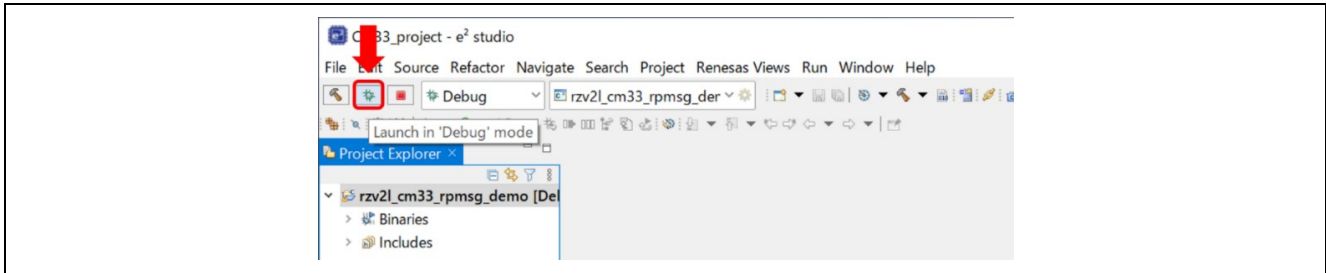

Figure 4-4. Select of Debug Configuration
1. Choose rzv2l_cm33_rpmsg_demo Debug_Flat or rzv2l_cm33_rpmsg_demo Release_Flat from the drop-down list indicated by a red arrow in Figure 4-4.